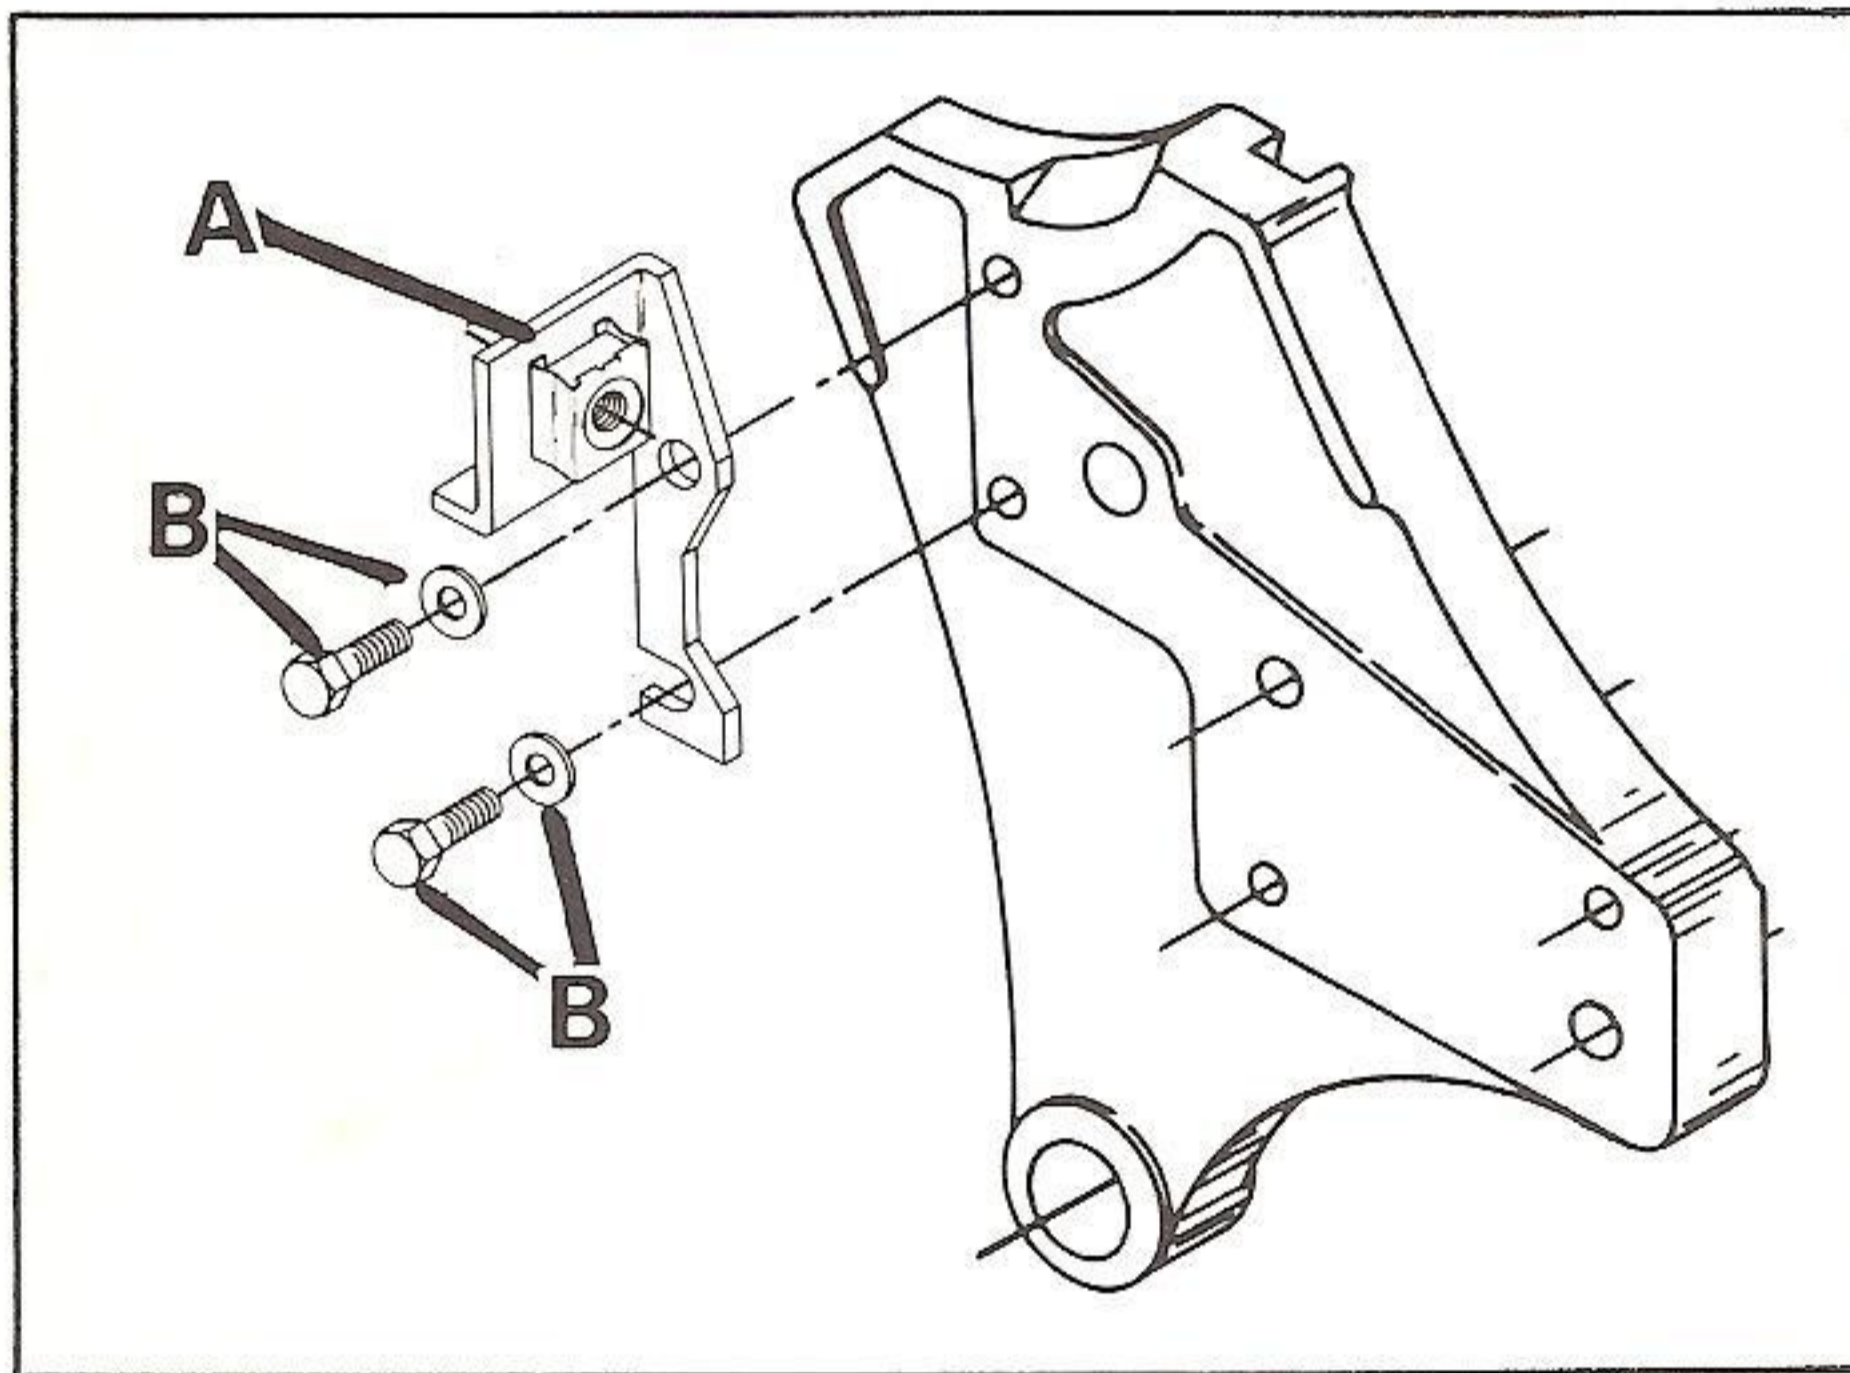

Fig. 8
1. Assemble bracket (A) to the inside of saw carriage using two screws and washers (B), as shown in Fig. 8. Do not tighten the two screws at this time. NOTE: Snap out the nut retainer to make this operation easier.